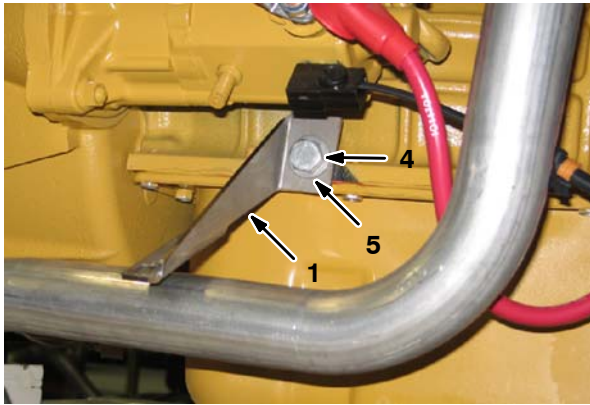

FIG. 2
2. Use a hex screw (4) and a flat washer (5) to install the exhaust pipe bracket (1) onto the engine block. Refer to Fig. 2.